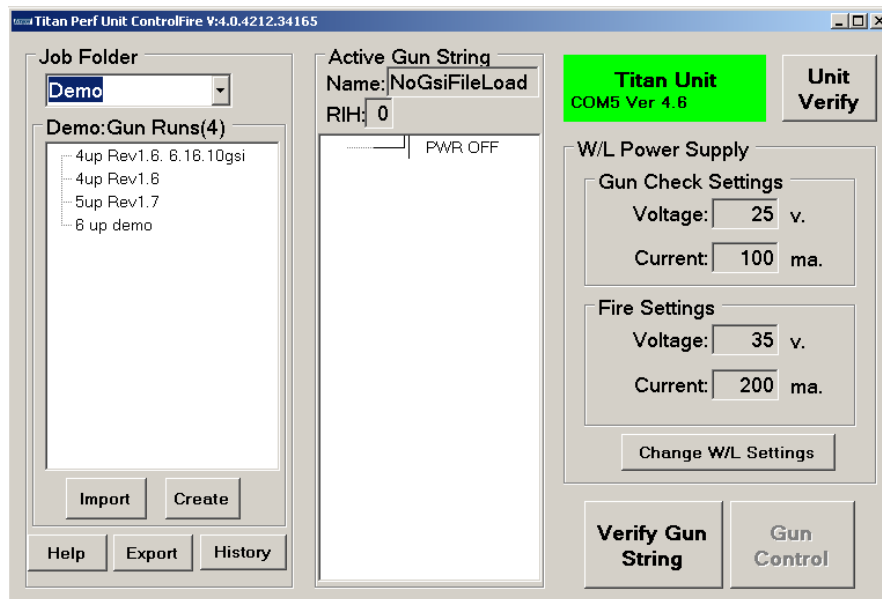

Figure 15
3. Select the appropriate Com port for communication to the Perforating Command and Control Panel and then click **Open**. When reusing the same computer and Perf Unit the Select Perf Unit Com Port screen may not appear and instead the Set-Up screen appears as shown in Figure 15.